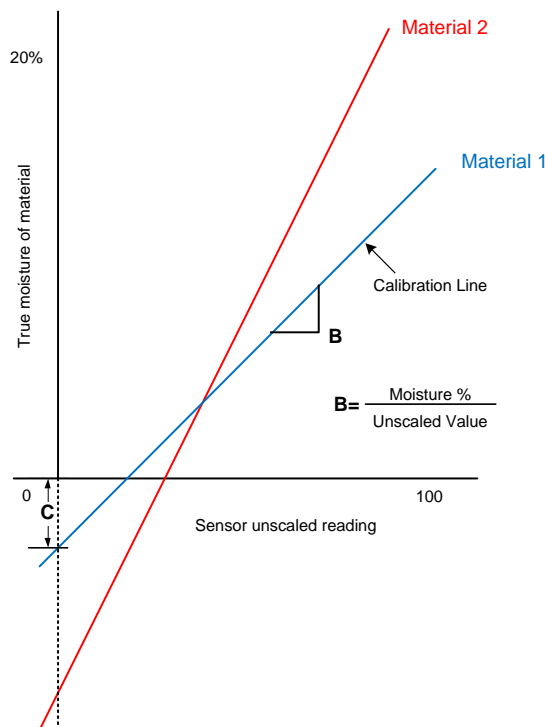

Figure 34: Calibrations for two different materials
The relationship between the change in moisture % to the change in unscaled value will not be the same for two different materials as shown in Figure 34. This is because each material has its own unique electrical characteristics. Calibration is the process of mapping the sensors unscaled readings to a value that represents the material moisture percentage.
The equation of the calibration line is defined by the Gradient (B) and the Offset (C), see Figure 34. These values are referred to as the calibration coefficients.